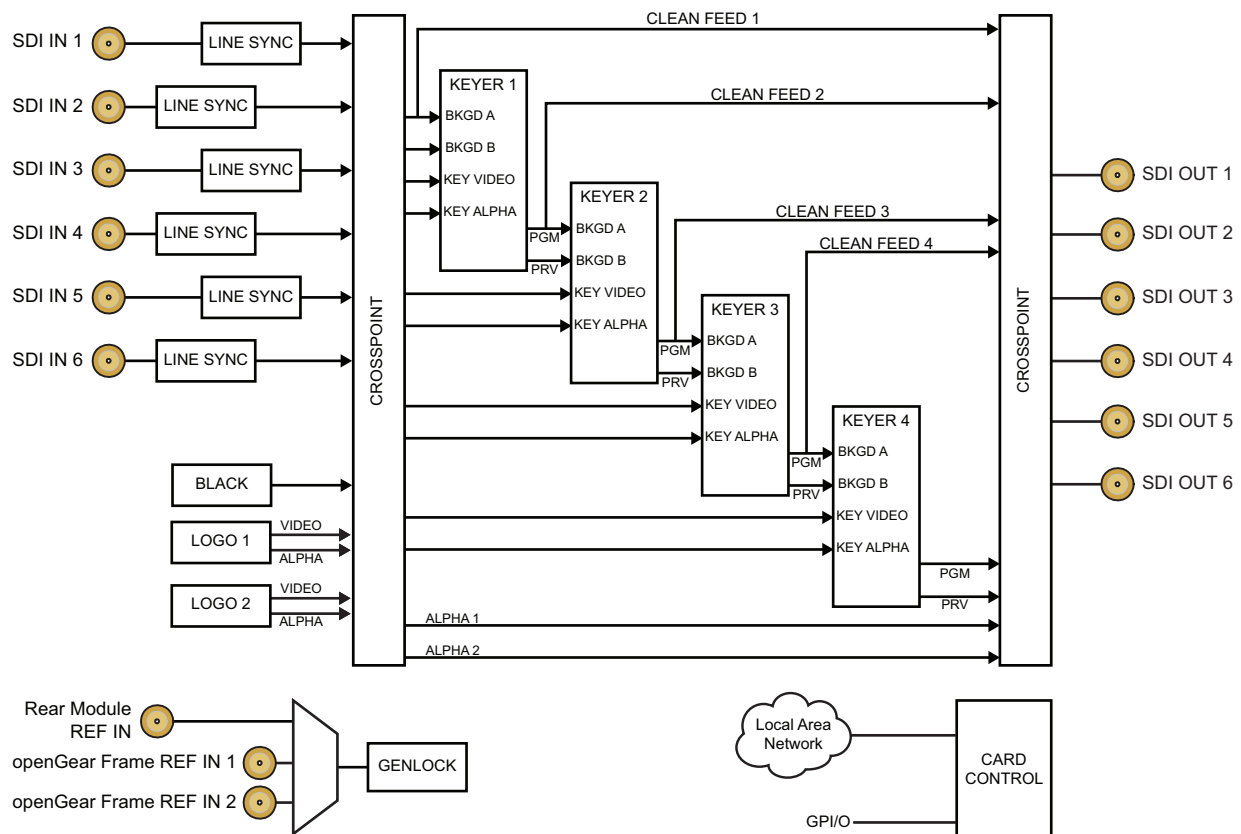

Figure 1 Functional Block Diagram
**Figure 1** provides a general overview of the GATOR-KEY workflow.